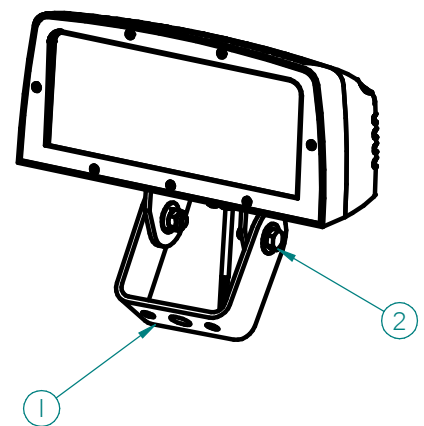

Fig. 1: Mounting the Fixture
Mounting The Fixture (See Fig. 1)
- Use a minimum of two 3/8" diameter bolts or one 3/4" diameter bolt for mounting (Item 1 in Fig. 1).
- Once fixture is aimed at the desired target, tighten the bolts on each side of the yoke (Item 2 in Fig. 1).